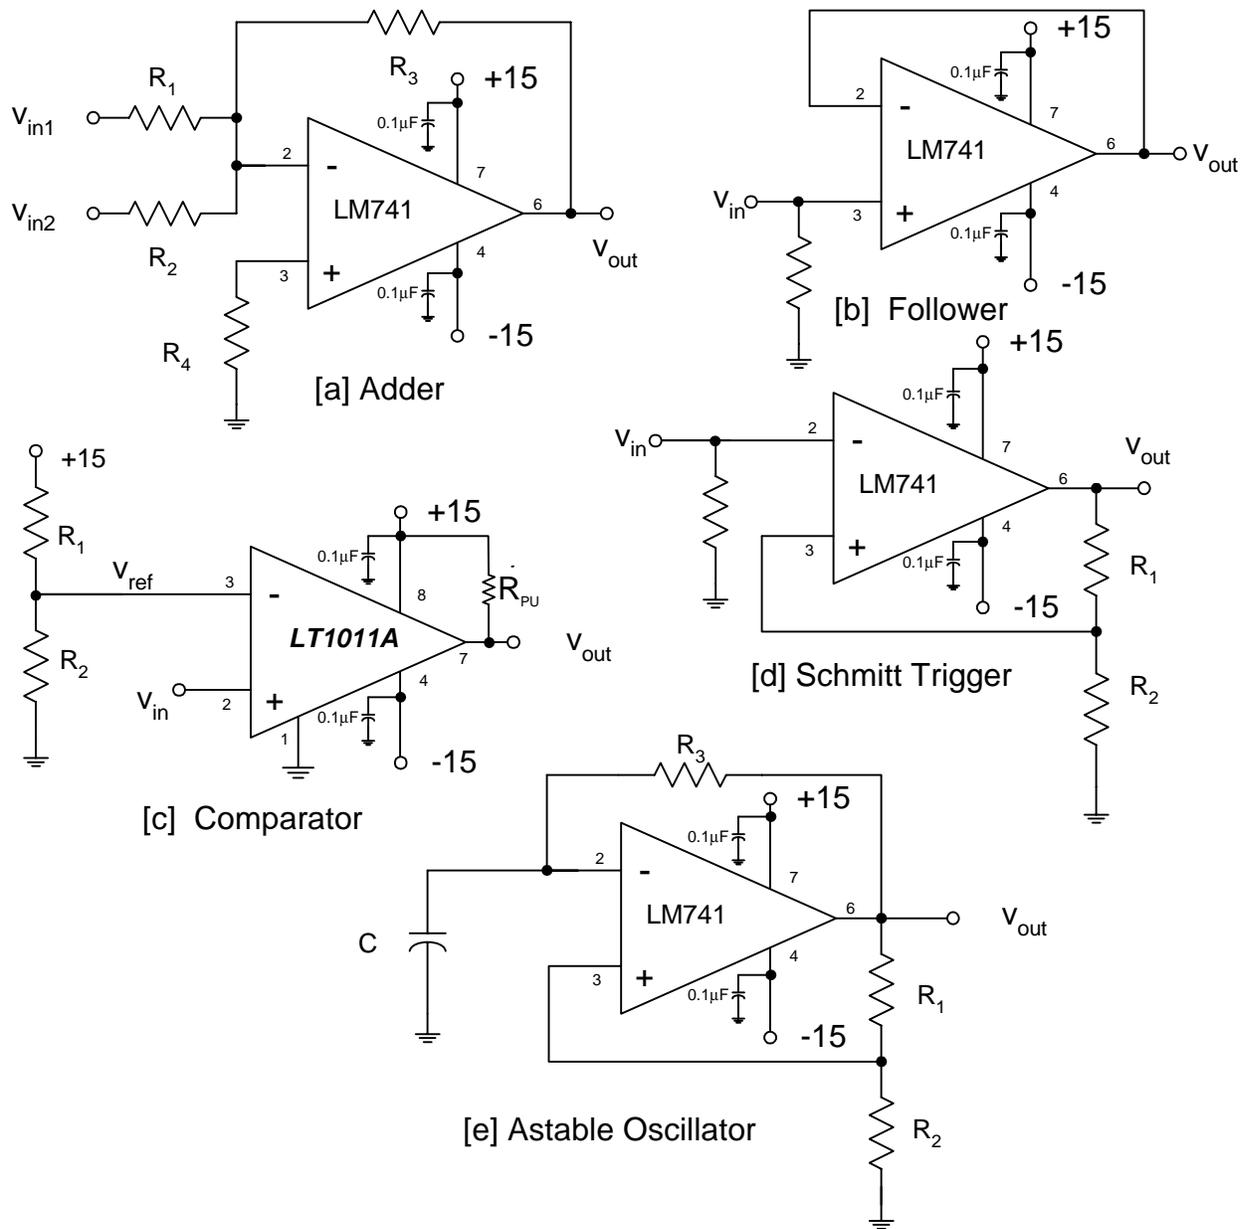

Figure 2: Circuits for experiment 3.
In the previous experiments, you examined the inverting op-amp configuration. In this experiment, you will examine other common configurations. These circuits are shown in Figure 2. Use a LM741 op amp for these experiments, **except use the LT1011A comparator for figure 2c, the comparator circuit.** For each circuit, draw a schematic and label all values in your lab report.
1. Figure 2[a] shows the configuration of an inverting adder. Select the resistor values such that $v_{out} = -(1.5v_{in1} + 3 v_{in2})$. Select the value of resistor R_4 to minimize the effects of input bias current. Build the circuit and confirm its performance by applying DC voltages to each input. One voltage can be the +5 V DC supply, the other can come from your function generator offset voltage [turn off the AC output]. Be sure not to drive your output into saturation with large input voltages.
2. Construct the voltage follower [unity-gain buffer] of Figure 2[b]. Omit the resistor to ground.
3. Figure 2[c] shows the circuit configuration for a comparator. Resistors R_1 and R_2 set the voltage level at which the circuit output will switch between positive and negative saturation. Due to the internal capacitor required to stabilize IC's designed for negative-feedback amplifier operation, and the nature of the output stage, driving such an amplifier into saturation can require a long time for it to recover once the input stimulus changes. This makes the op-amp a pretty bad choice for use as a comparator at higher frequencies. [Comparators are usually operated without feedback.] Thus, a series of products specifically designed for use as comparators has been developed. These devices have open collector outputs and thus require an external resistor connected to the positive supply rail in order to operate properly. The size of the external resistor will depend on the amount of current needed to drive the load when the output transistor is "on" [saturated] and current flows from the positive supply through the load resistor to the load on the output. Typical resistor values are in the 1.0kΩ to 10kΩ range. This resistor is labeled R_{PU} in the schematic. Also please note that even though the comparator is connected to both the +15 v and -15v supplies, the output swings only from ground to +15 volts in the circuit shown. [The output can be arranged to drive loads referred to the positive supply or the negative supply, as well as a load referred to ground as illustrated here. See the LT 1011A spec sheet for more info on the use of this device. If your comparator oscillates at the transition (from low to high or high to low) point, see the spec sheet application hints for ways to cure this.]
4. Figure 2[d] shows the circuit configuration for a Schmitt trigger. A Schmitt trigger uses the operational amplifier [good for low frequencies only!] as a comparator along with positive feedback to create a "hysteretic" switch. If you analyze this circuit, you will find that if the output of the Schmitt trigger is positive, the input will have to be raised to some fraction of the output voltage before the output will switch to a negative value. It will then require the same level of negative input voltage before the output will switch positive. This circuit can be used to "compare" noisy signals that are expected to have enough difference in their values to exceed the design thresholds. In other words, the Schmitt trigger will not switch output states when only noise is presented to the input, if the noise is lower than the thresholds. The standard comparator in figure 2[c] above will change state easily [and often!] with a noisy input. Find R_1
5. In Figure 2[e] a capacitor and resistor have been added to the Schmitt trigger of Figure 2[d] to produce an oscillator. Show the output waveform in your lab report; also show the capacitor charging and discharging voltage.